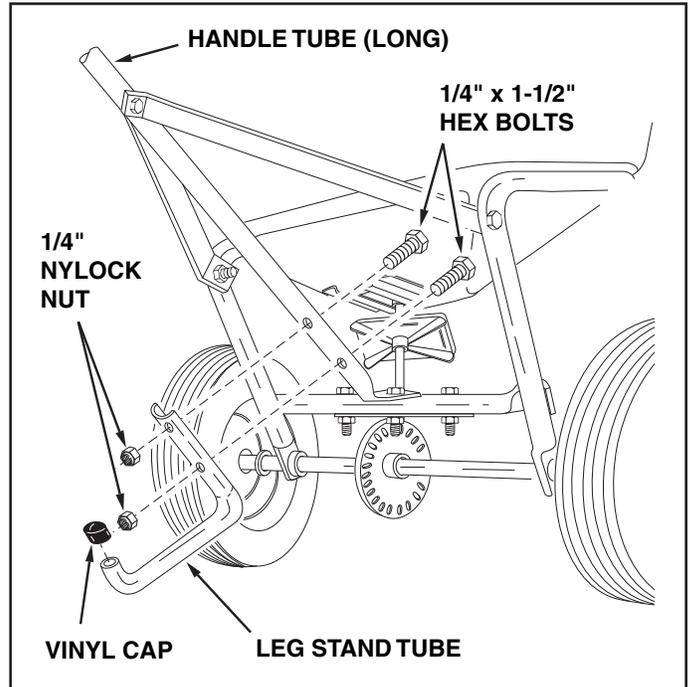

FIGURE 6
12. Assemble the leg stand tube to the handle tube (long) using two 1/4" x 1-1/2" hex bolts. Secure tightly with two 1/4" nylock nuts. See figure 6.
13. Place a vinyl cap over the end of the leg stand tube. See figure 6.